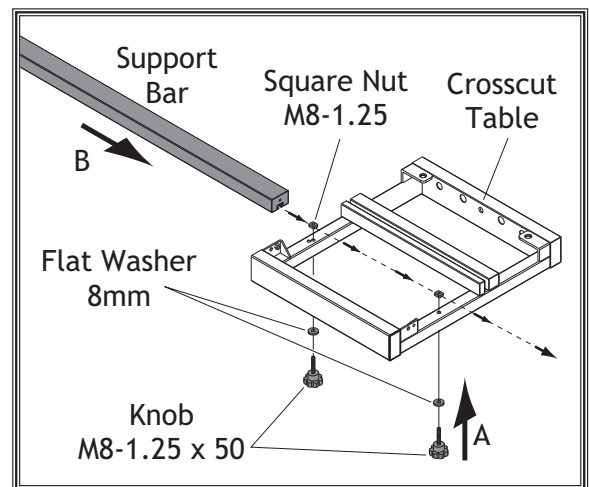

Figure 24. Installing support bar on crosscut table.
18. Insert the two crosscut brace knobs with 8mm flat washers through the crosscut table, then thread the square nuts onto the ends of the knob threads (**Figure 24, A**). Slide the T-slot in the support bar over both T-nuts, and tighten the knobs (**Figure 24, B**).